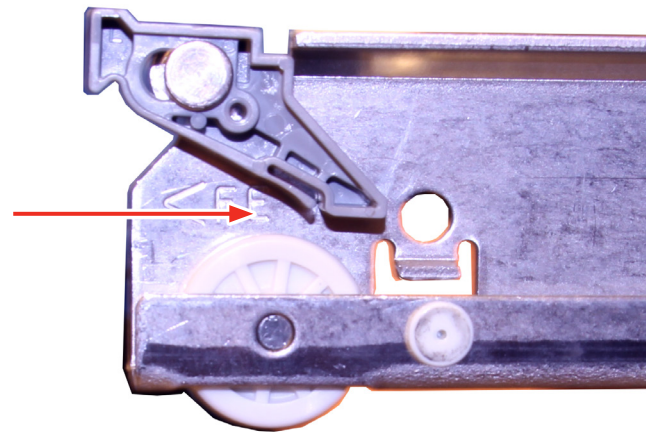

Fig. 20
2. Gently set the drawer rails back onto the rollers on the end of the drawer sliders, and push the drawer in until completely closed (Fig. 20).